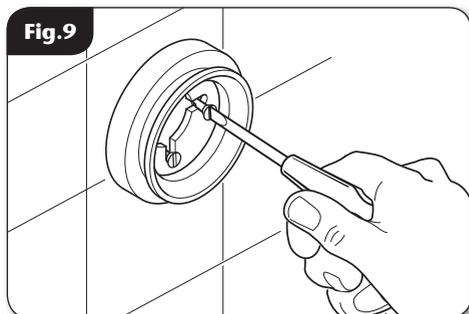

Fig. 9
- Fit the mounting plate (**fig. 9**).